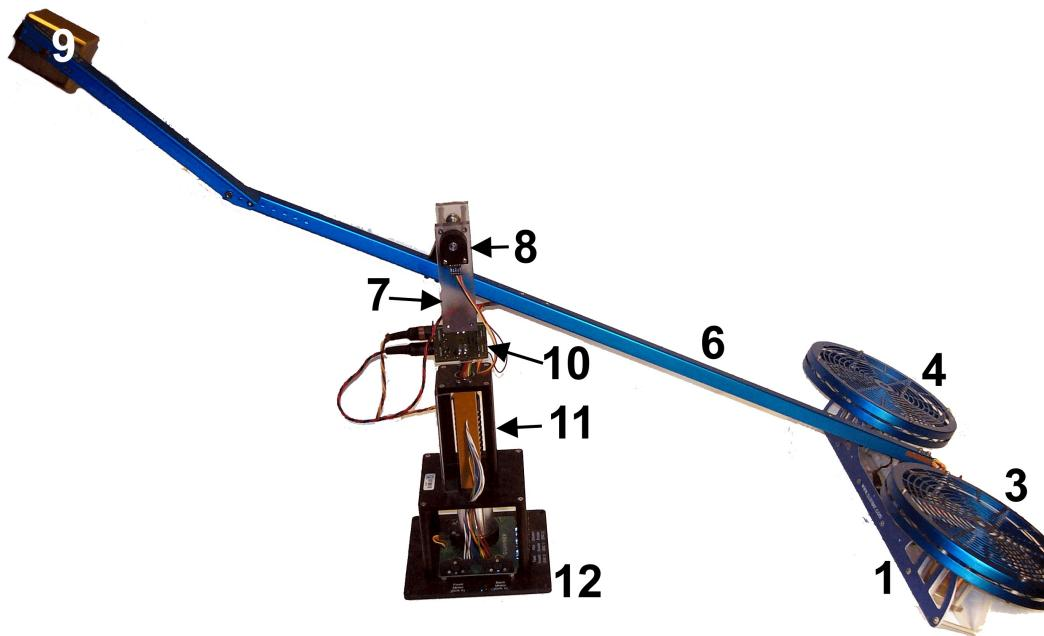

Figure 3: Components of 3-DOF Helicopter.
The components comprising the 3-DOF Helicopter system are labeled in figures 3, 4, and 5 are described in Table 2. The motors, propeller assemblies, and encoders are described in more detail below.
1. Place the support base, component #12 shown in Figure 3, on a table or on the floor.
2. Install the elevation encoder frame, component #7 in Figure 3, on the top of the base. Ensure the white arrow labels on the circuit, ID #10 in Figure 3, and on the frame are aligned. Once fitted, tighten the two thumb screws.
3. Guide the long blue arm, ID #6 in Figure 3, through the elevation encoder frame. Tighten the cap screw maintaining perpendicularity to the elevation encoder frame wall.
8. As illustrated in Figure 9, attach the secondary arm to the end of the main arm, ID #6 in Figure 3, and tighten two screws through the nuts. The angle of the secondary arm relative to the main arm has been selected such that the effective mass at the helicopter end is relatively constant.